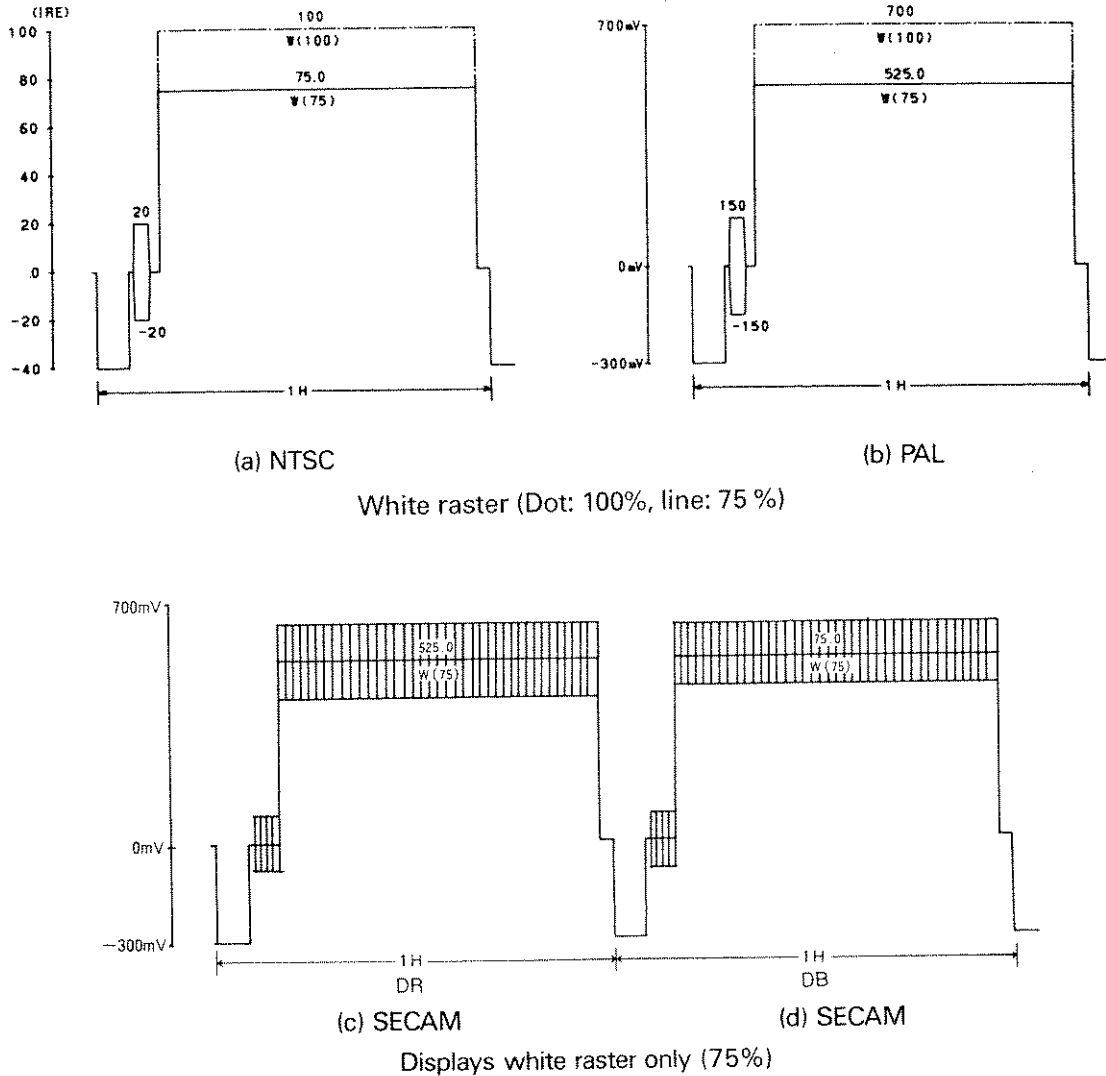

Figure 5.10
5.2 Raster Patterns (See Figure 5.10)
used to adjust the display purity of a monitor. Figure 5.10 shows waveforms of the white raster signal.